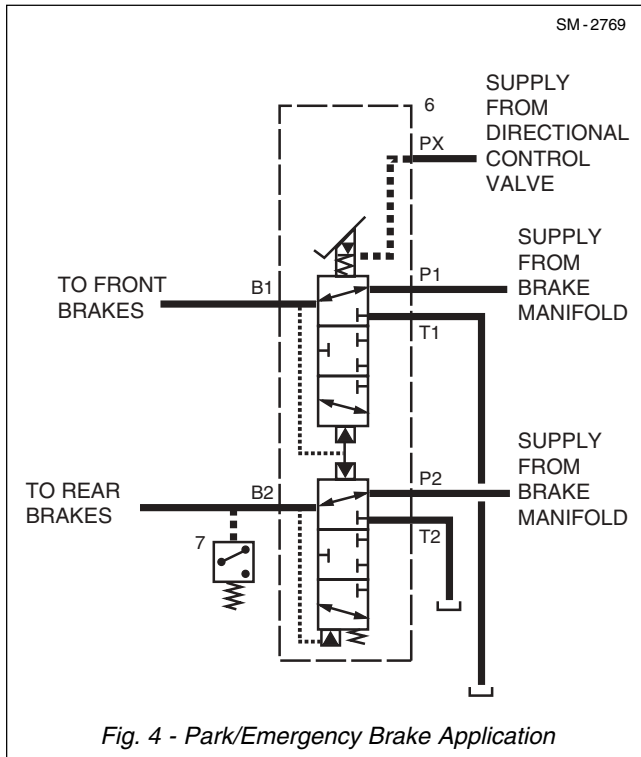

Fig. 4 - Park/Emergency Brake Application
Refer to Fig. 4. Pressing/pushing of the emergency control knob results in the de-energization of the brake manifold valve solenoid. This allows full pressure to enter the 'Px' port in the treadle valve simulating a full and immediate depression of pedal (1) assembly, i.e. pushing regulator spools (16 & 14) downwards and thereby applying maximum braking action.